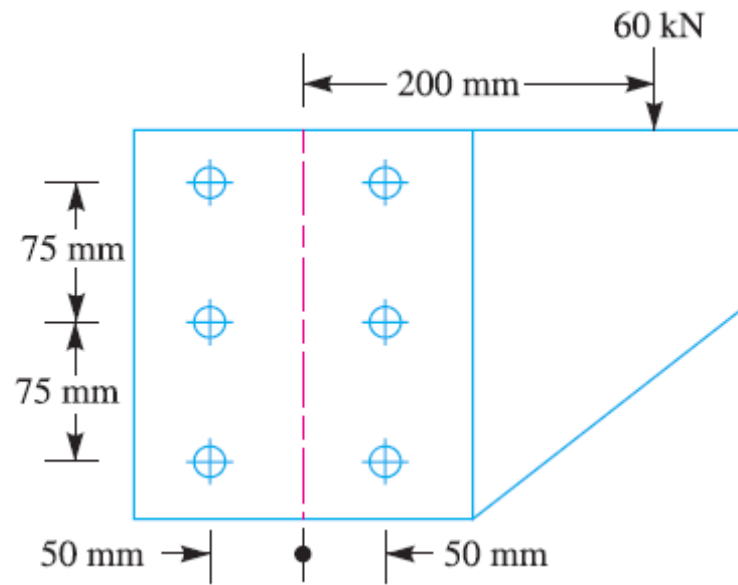

Fig.3
- 3) A bracket is riveted to a column by 6 rivets of equal size as shown in Fig.3. It carries a load of 60 kN at a distance of 200 mm from the center of the column. If the maximum shear stress in the rivet is limited to 150 MPa, determine the diameter of the rivet.